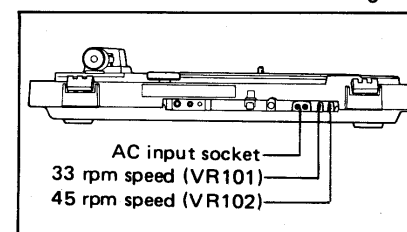

Fig. 16
2. Turn the VR102 with a screw driver from the back of the set to the rated rotation (45 rpm) and check the rotation with a strobe while adjusting the speed. (Fig. 16)
4. Turn the VR101 with a screwdriver from the back of the set to the rated rotation (33-1/3 rpm) and check the rotation with a strobe while adjusting the speed. (Fig. 16)